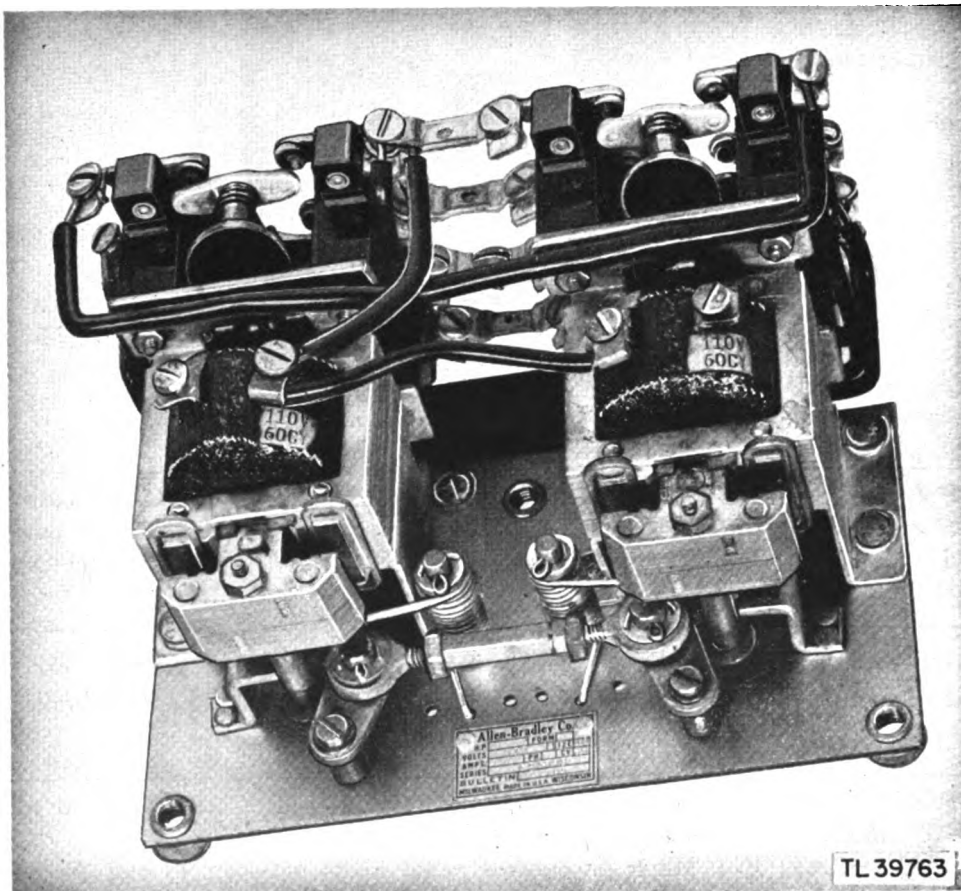

Figure 162. Starter reversing relay.
- e. Open coil on relay 1-E-1 (fig. 162).